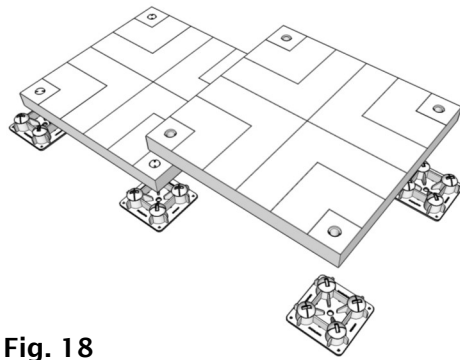

Fig. 18
Place a Pad (B) onto the last 2 Piers (A) installed, and onto 2 of the first 4 Piers (A) installed. (Fig. 18 & 19)